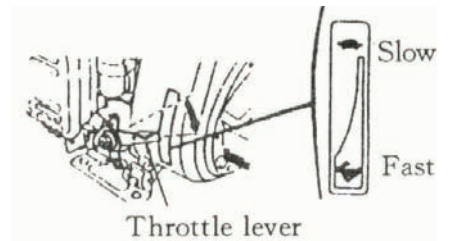

Fig. 7
3. Move down the throttle lever slightly to the FAST position (Fig. 7).